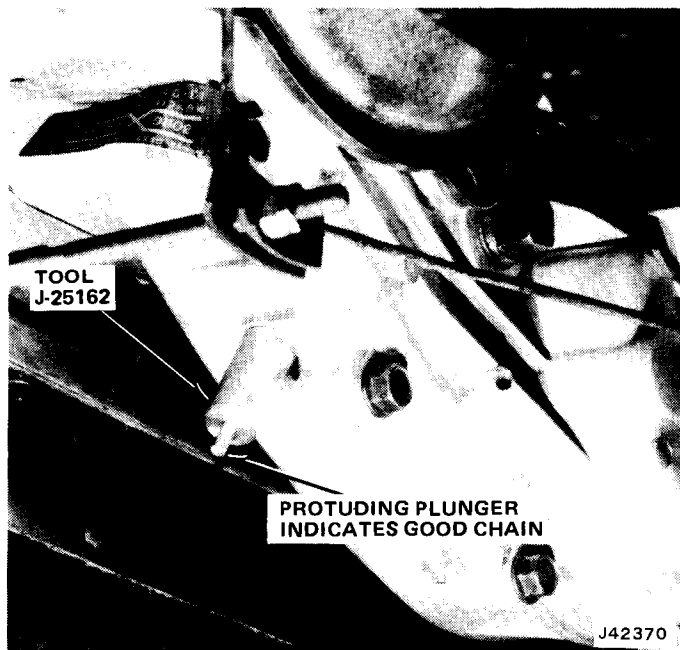

Fig. 8-20 Chain Tension Gauge Installed
- (1) Remove transfer case drain plug and drain lubricant. Install drain plug.
- (2) Remove chain inspection plug.
- (3) Thread Chain Tension Gauge, Tool Number J-25162, into inspection hole just finger-tight until tool shoulders against case.
- (4) The tool plunger should protrude past the outer end of the checking tool (fig. 8-20). If tool plunger is flush or below the end of the tool, the chain should be replaced.